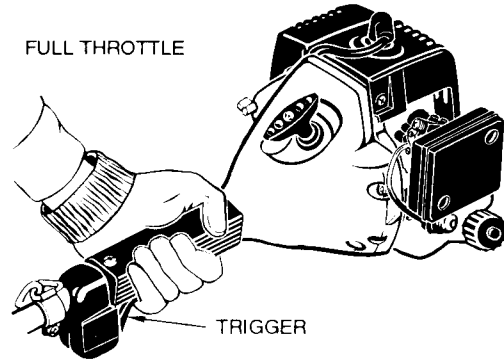

Figure 6-1D
3. Squeeze the trigger to the FULL THROTTLE position. (Figure 6-1D)